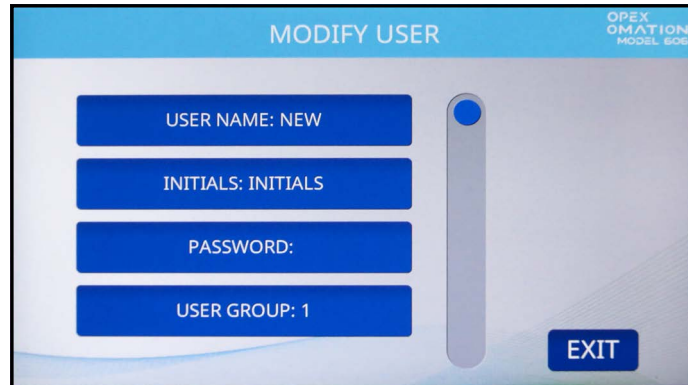

Figure 6-40: Modify User screen
2. Press a User to select it. The **MODIFY USER** screen appears (Figure 6-40).